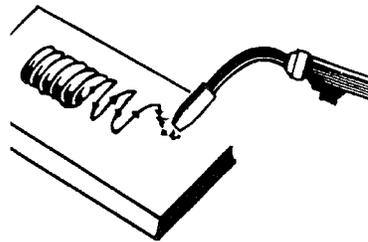

Figure 8. Weave Weld Bead
2. The **WEAVE BEAD** (Figure 8) is used when you want to deposit metal over a wider space than would be possible with a stringer bead. It is made by weaving from side to side while moving the gun. It is best to hesitate momentarily at each side before weaving back the other way.